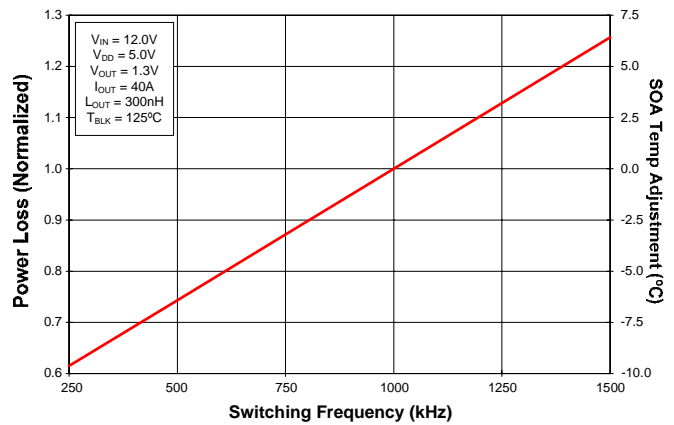

Figure 6 Normalized Power Loss vs. Switching Frequency
| (Figure 6) | Normalized power loss for switch frequency \approx 0.87 |
- (Figure 6) SOA temperature adjustment for switch frequency $\approx -3.5^{\circ}\text{C}$